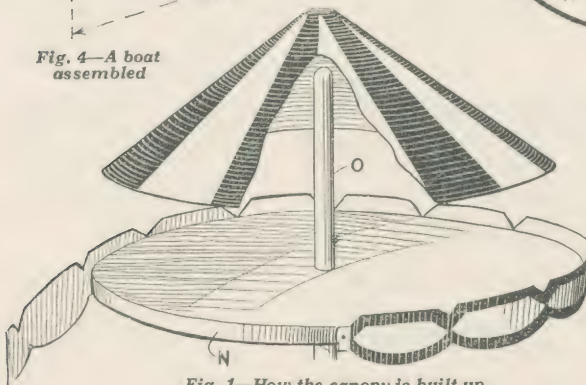

Fig. 1—How the canopy is built up
In dealing with the roof section, the first piece to mark out and cut will be the large circular disc N in Fig. 1. This should be cut from $\frac{3}{16}$ in. plywood with a hole made in the centre to tightly fit the upright spindle.
The stand, it will be remembered, was built up of three main parts as indicated in the inset, Fig. 2. A variation may be made, however, by carrying the section (A) from the foot of the side pieces to a position level with the top of the bottle, Fig. 1. This part (A) is not bevelled in this case and it is a trifle narrower than the upright. It is held in position by sprigs driven in from either side through the uprights into the ends.
by having two cross-pieces, one at the base and one at the upper level. The lower one should be bevelled as in the original design and the upper one plain as in Fig. 1.